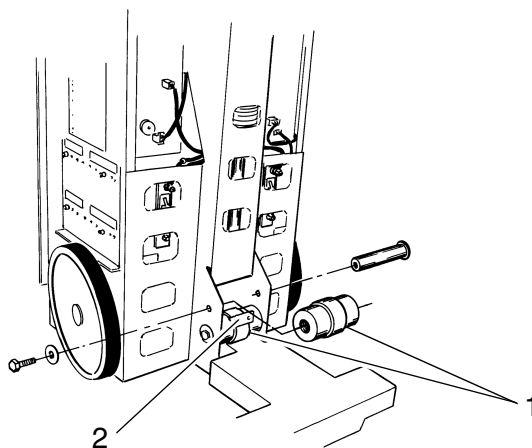

Fig. 30 Counter bearings and friction lining
42. Remove the counter bearings (pos. 1 / Fig. 30) and then the friction lining (pos. 2 / Fig. 30).
Remount the counter bearings and the friction lining (Fig. 30), begin with the lower bearing. The lower arm link may have to be adjusted (or lengthened, i.e. slightly loosening the adjustment screw) or held by a second technician in such a position that the bearings fit back into place.